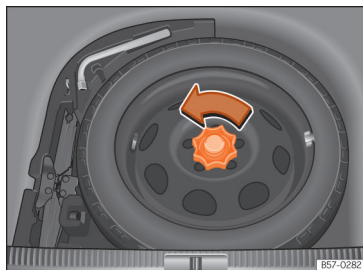

Fig. 310 Spare wheel: floor panel raised.
- Turn the thumb wheel anti-clockwise »» **Fig. 310.**